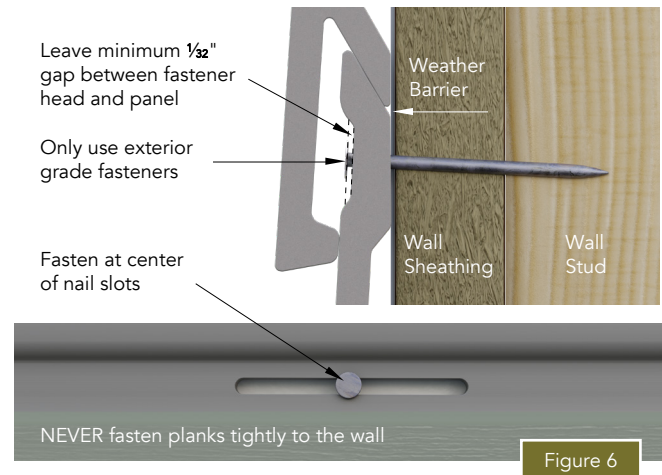

Figure 6
- Everlast is a floating siding system that accommodates lateral expansion and contraction within pocketed trim. Therefore, never hard nail siding planks tightly to the wall (Figure 6).
- Always fasten siding planks through the center of the pre-punched nailing slots (Figure 6).
- Always leave a minimum $\frac{1}{32}$ " gap between the nail head and the nailing hem (Figure 6).
- Fasteners must be long enough to penetrate beyond the sheathing a minimum $\frac{3}{4}$ ". Note: Fasten into studs wherever possible (Figure 6).